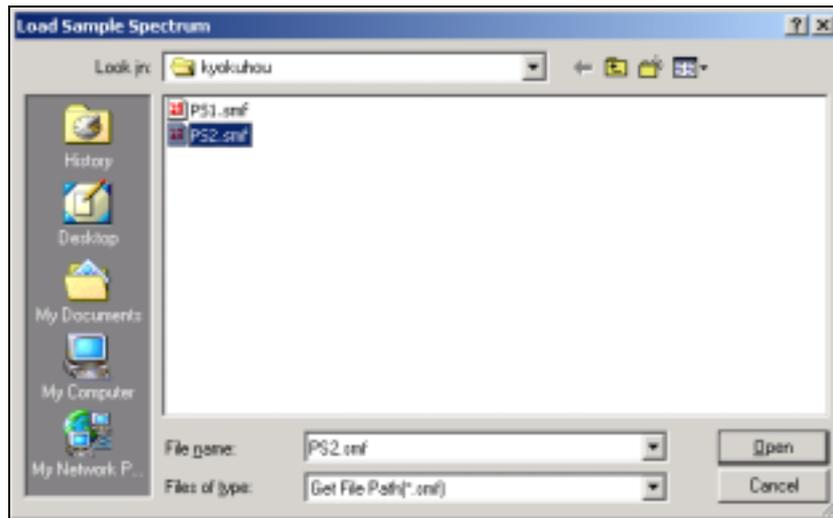

Figure 4-3. "Load Sample Spectrum" dialog box
- The dialog box in Figure 4-3 opens.